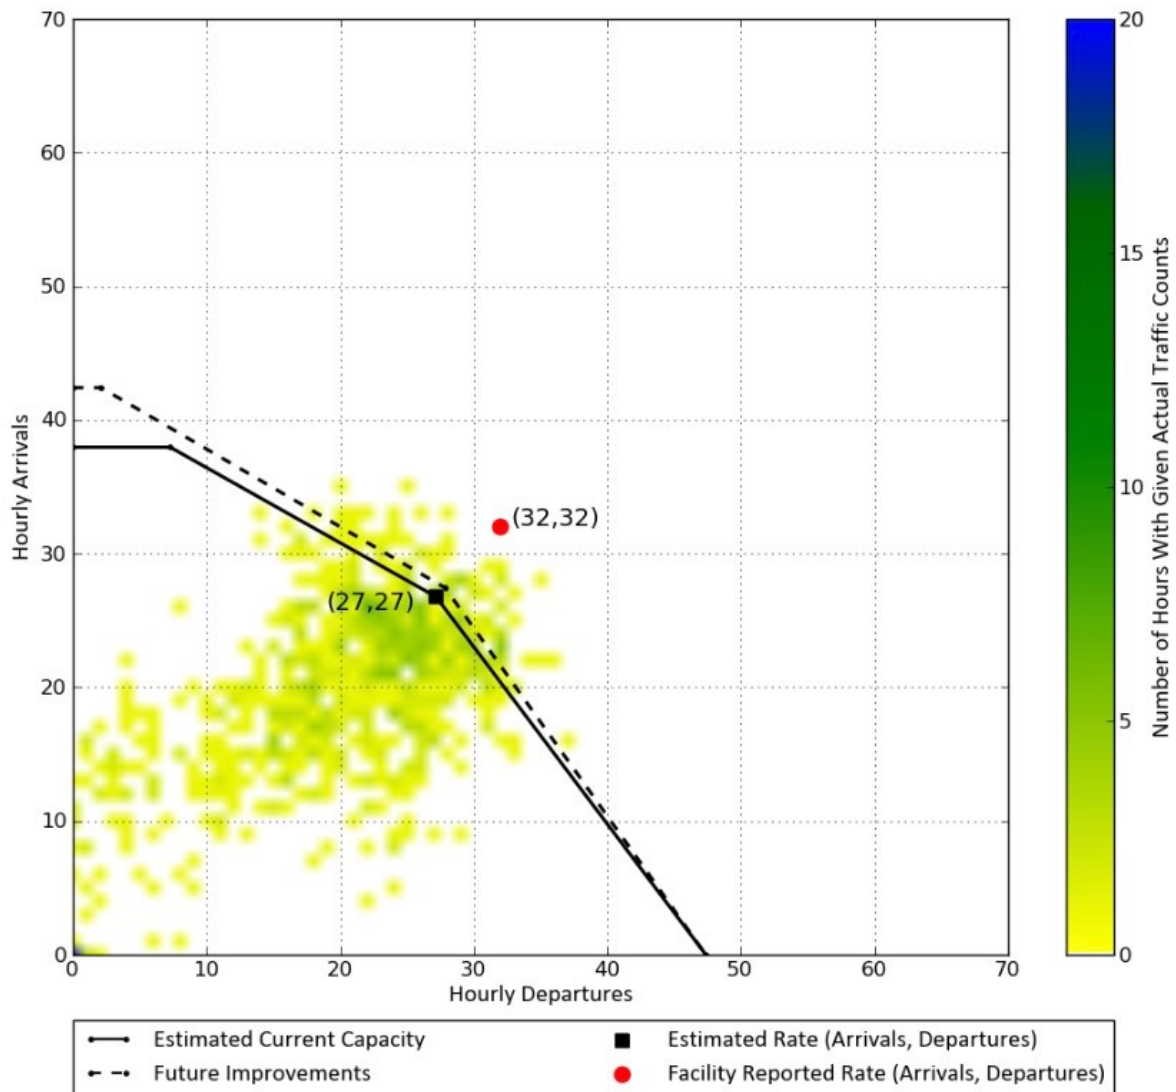

Figure 1. Pareto Diagram for DCA Airport (source: FAA, 2014).
Consider the runway saturation capacity under IMC weather conditions for Ronald Reagan Airport (DCA) as shown in Figure 1. The diagram is available at: https://www.faa.gov/airports/planning_capacity/profiles/media/DCA-Airport-Capacity-Profile-2014.pdf. The assumption in the analysis shown in Figure 1 is that runway 1 is used for both arrivals and departures in IMC conditions.
- c) The dotted line in Figure 1 shows future improvements to this airport from various NextGen initiatives. Will there be relief to delays if these changes are implemented?